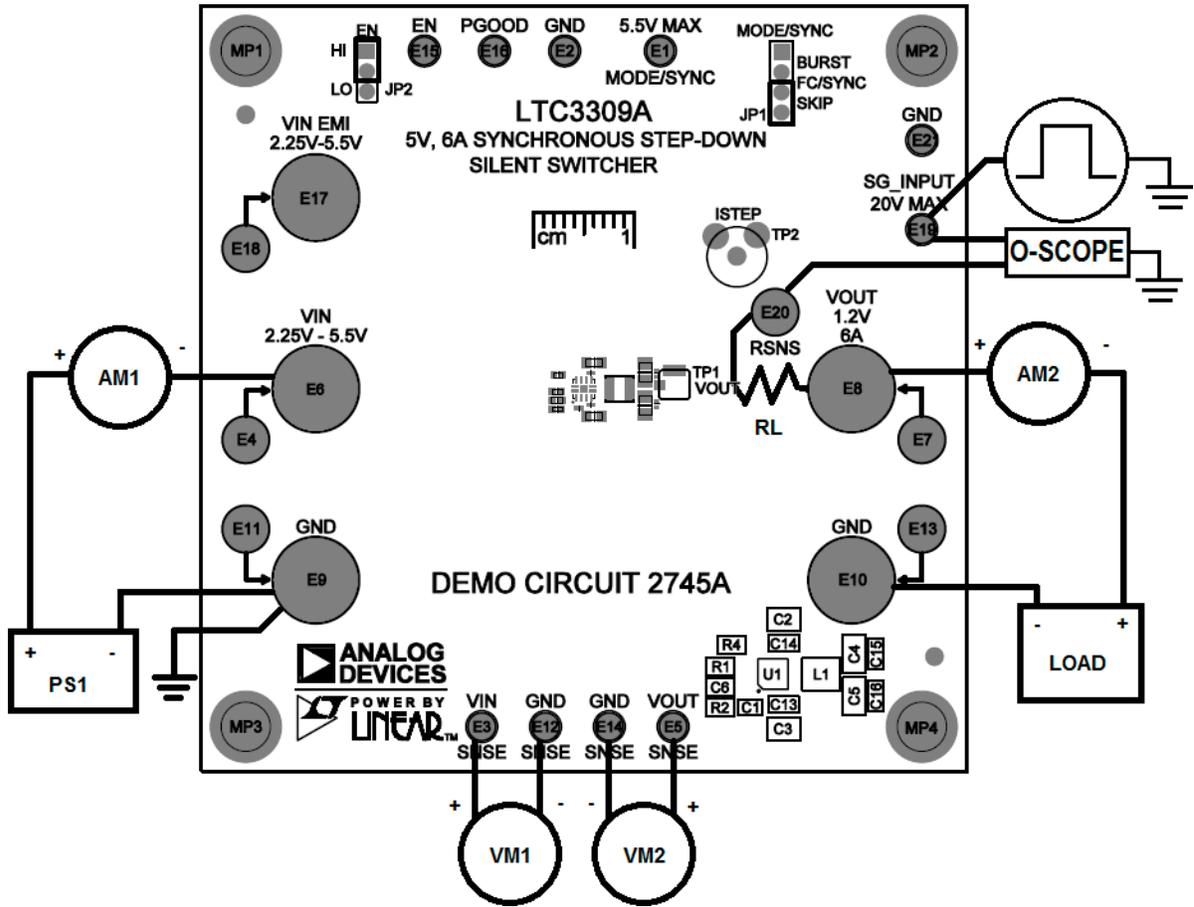

Figure 1. Test Setup for the DC2745A Demo Board
Demonstration circuit 2745A is easy to set up and use to evaluate the performance of the LTC3309A. Refer to Figure 1 for proper measurement equipment setup and follow the procedure below:
NOTE: For accurate V_{IN} , V_{OUT} and efficiency measurements, measure V_{IN} at the VIN SNSE and GND SNSE turrets and V_{OUT} at the V_{OUT} SNSE and GND SNSE turrets as illustrated as VM1 and VM2 in Figure 1. When measuring the input or output voltage ripple, care must be taken to avoid a long ground lead on the oscilloscope probe.
13. To test the transient response with a base load, add the desired resistor to produce a minimum load between V_{OUT} and RSNS turrets (RL shown on Figure 1). Note that the total load resistance will be RL plus R11 (100m Ω).